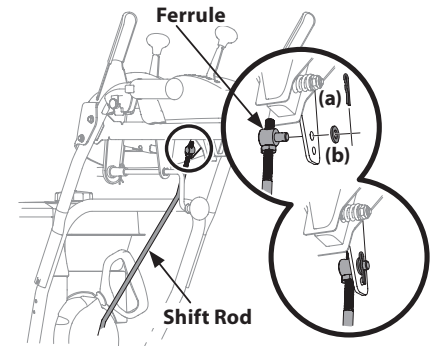

Figure 2-36
8. Remove cotter pin (a) and washer (b) from ferrule on end of shift rod. See Figure 2-36 inset.
10. Insert ferrule into top hole of shift lever and secure with cotter pin (a) and washer (b) removed in Step 8. See Figure 2-36. Ferrule may need to be adjusted up or down.